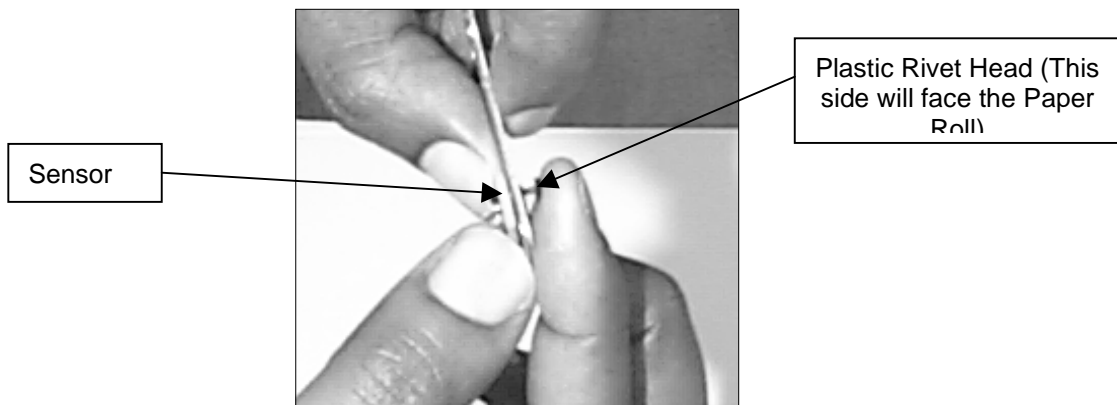

Figure 5
7. Keeping the sensor in the bracket slot, hold them so that a push rivet can be inserted through both holes from the bottom up (see fig. 5). Push the heads of the rivets until they click into place and the sensor is secure on the bracket.